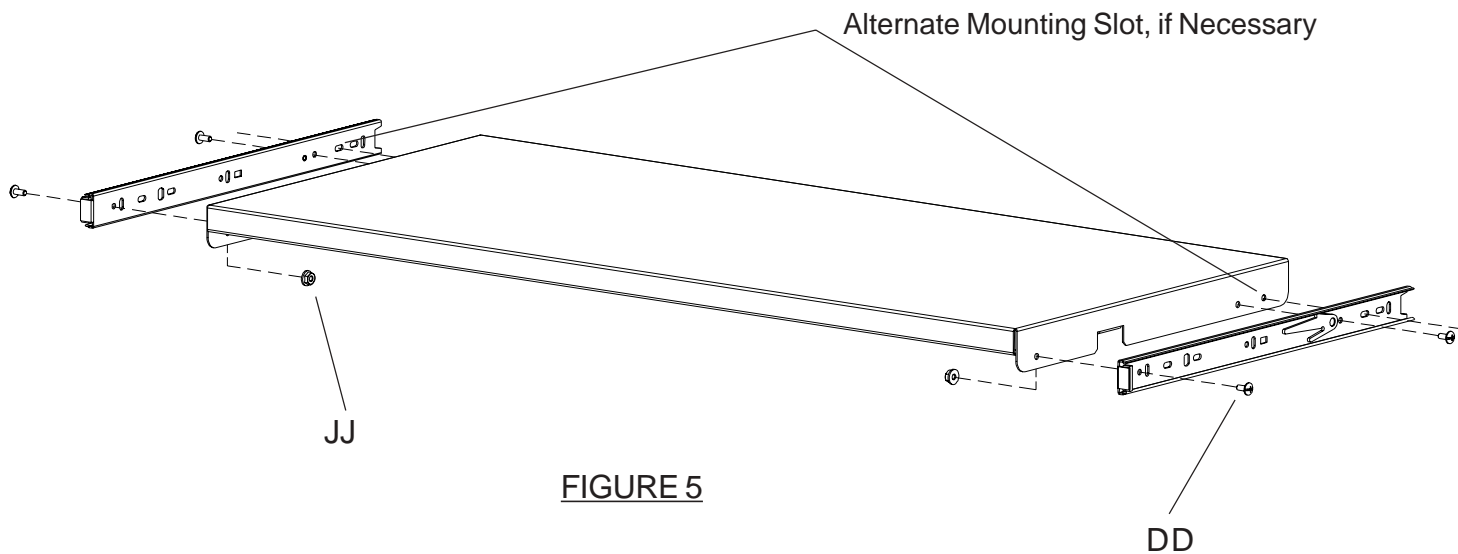

FIGURE 5
Attach the remaining slide pieces to the pull out shelf with screws (DD) and nuts (JJ) as shown in **FIGURE 5**. Then slide shelf into cart as shown in **FIGURE 6**.